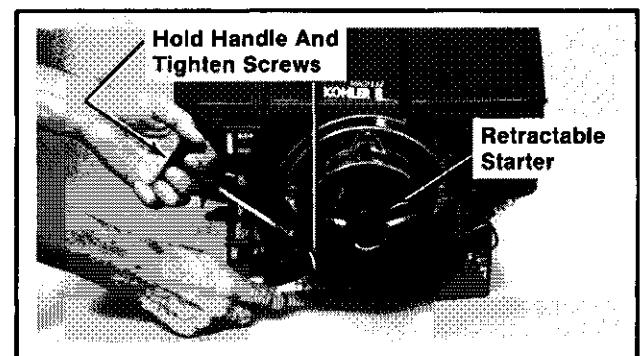

Figure 12A-38. Installing Retractable Starter.
2. Pull the starter handle out 8-10" until pawls engage in the drive cup. Hold the handle in this position and tighten screws securely. Refer to Figure 12A-38.